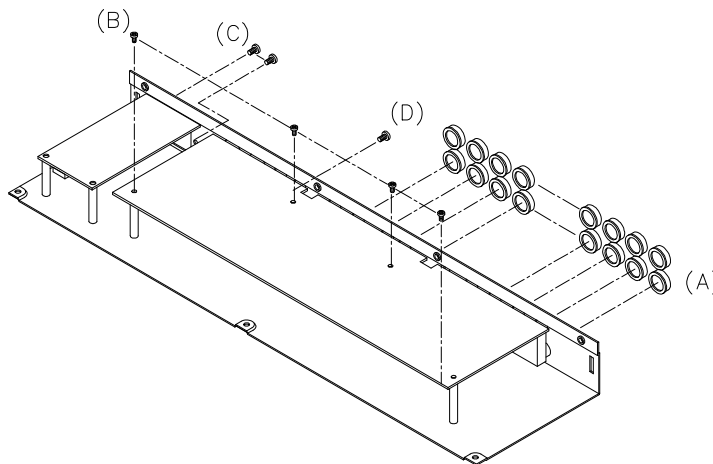

Fig.2
2. REMOVAL OF MAIN P.C.B (Fig2)
- (A) REMOVE THE 16 PCS NUT OF 1/4" CONNECTORS REAR PANEL.
- (B) REMOVE THE 4 PCS SCREW FROM WHICH MAIN P.C.B.
- (C) REMOVE THE 2 PCS SCREW FROM WHICH REAR PANEL.
- (D) REMOVE CABLE CONNECTOR FROM.
- (E) REMOVE THE SCREW FROM RCA SOCKET.